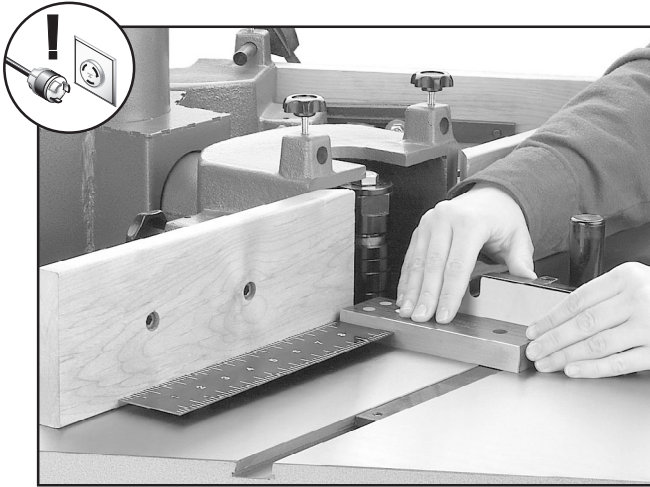

Figure 56. Using the miter gauge and square to check the fence.
3. Insert the miter gauge into the miter slot, adjust it to 0°, then place the precision square against the miter gauge and the fence, as shown in **Figure 56**. Note any gaps between the square and the fence.